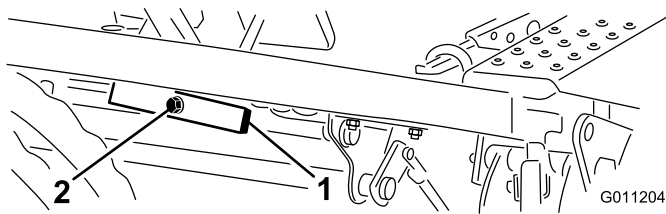

Figure 43
1. Loosen the nut on the back side of the lift pivot (Figure 43).
2. Rotate the eccentric screw (Figure 43) to raise or lower the lift pivot spring, leveling the lift pivot and pedals.